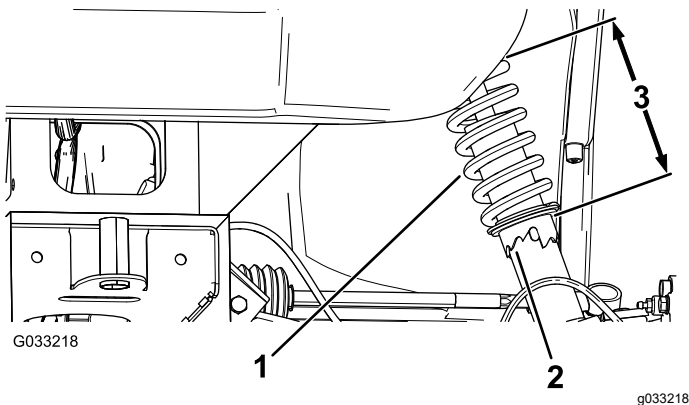

Figure 55
2. If the wheel camber is out of alignment, use the spanner wrench to rotate the collar on the shock absorber to align the wheel (Figure 55).